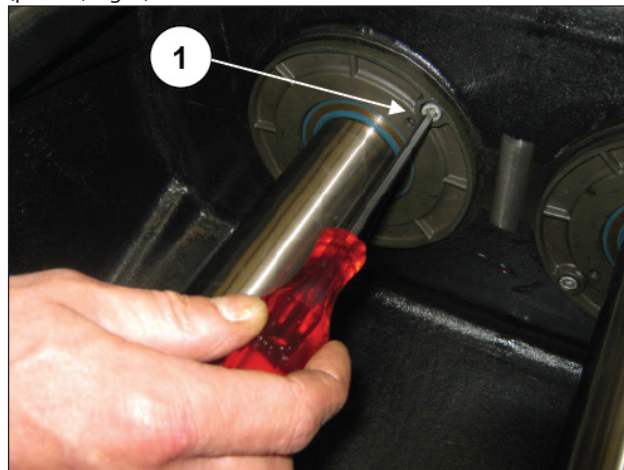

Fig. 2
Undo the two M6 fixing screws of the three oil seal covers (pos. ①, Fig. 2).